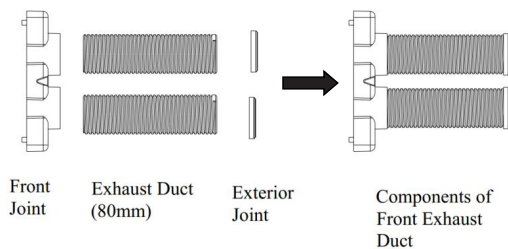

Figure 3
1.2.1 Screw the 2 air ducts counterclockwise into the front joint (as shown in Fig. 3)
1.2.2 Screw the 2 duck-billed joints into another side of the exhaust duct (as shown in Fig. 3).